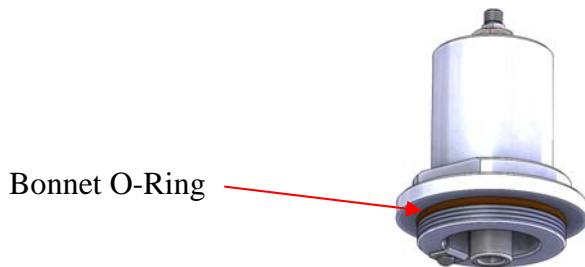

Figure 28: Bonnet O-Ring
9. Remove and discard the bonnet o-ring. This is located on the bottom side of the bonnet. See Figure 28.